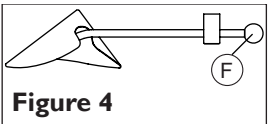

Figure 4
Refer to Figure 4. The arms can be repositioned via the levers (F).